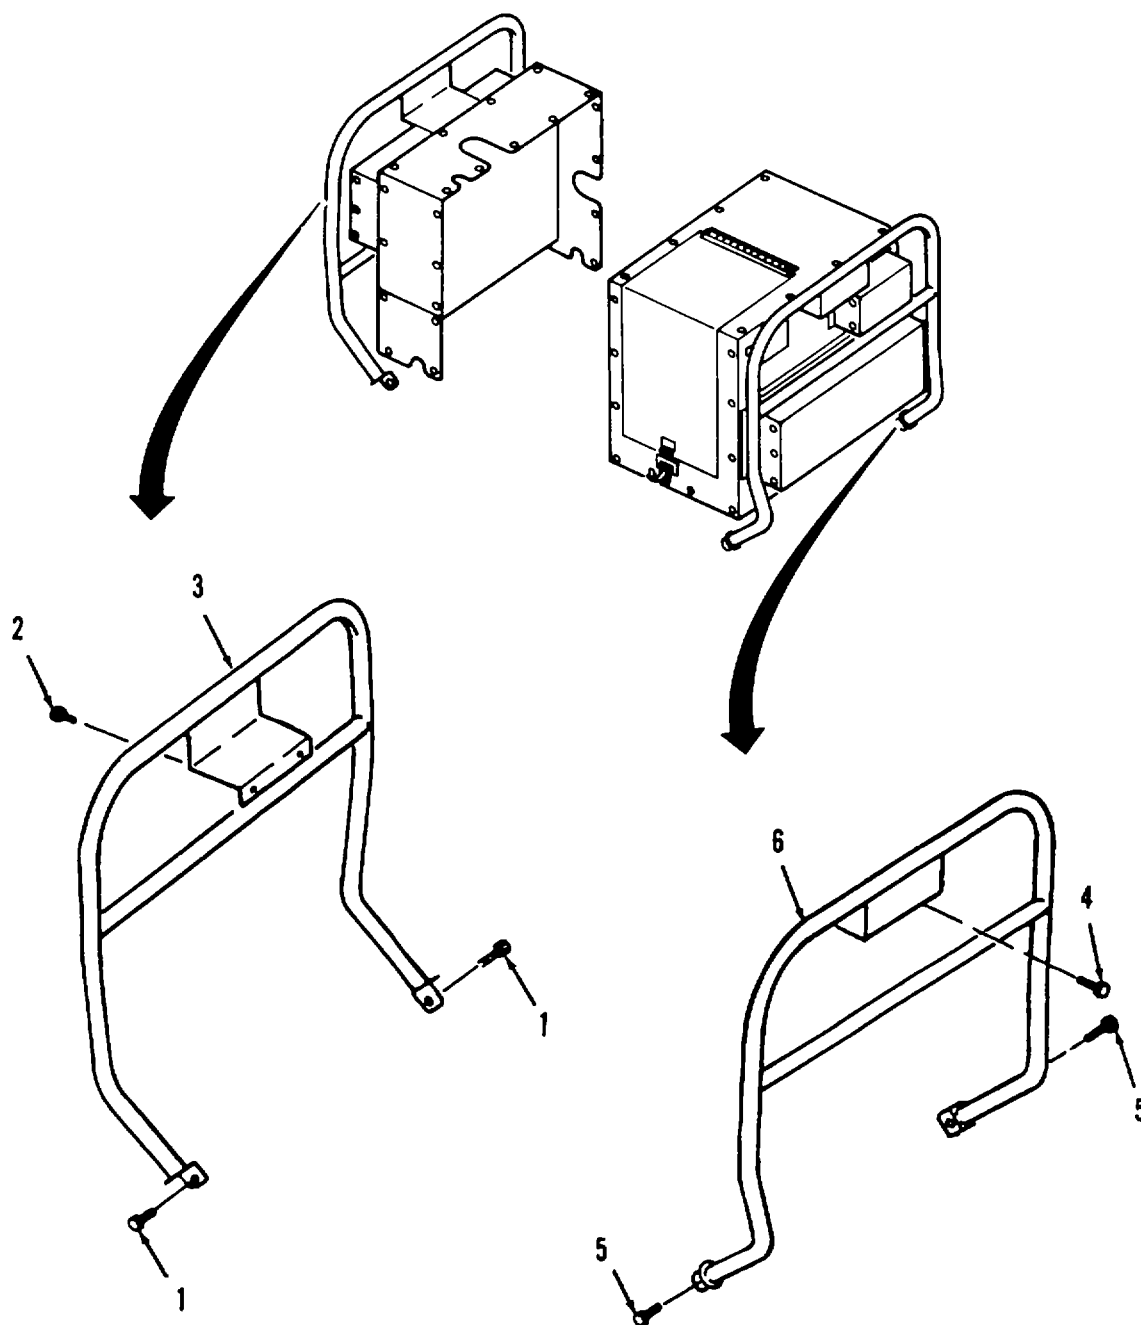

Figure 4-2. Roll-Over Frame Replacement.
a. Removal (Refer to Figure 4-2).
- (1) Remove two screws (1), two screws (2), and outlet side roll-over frame (3) from unit.
- (2) Remove two screws (4), two screws (5), and inlet side roll-over frame (6) from unit.